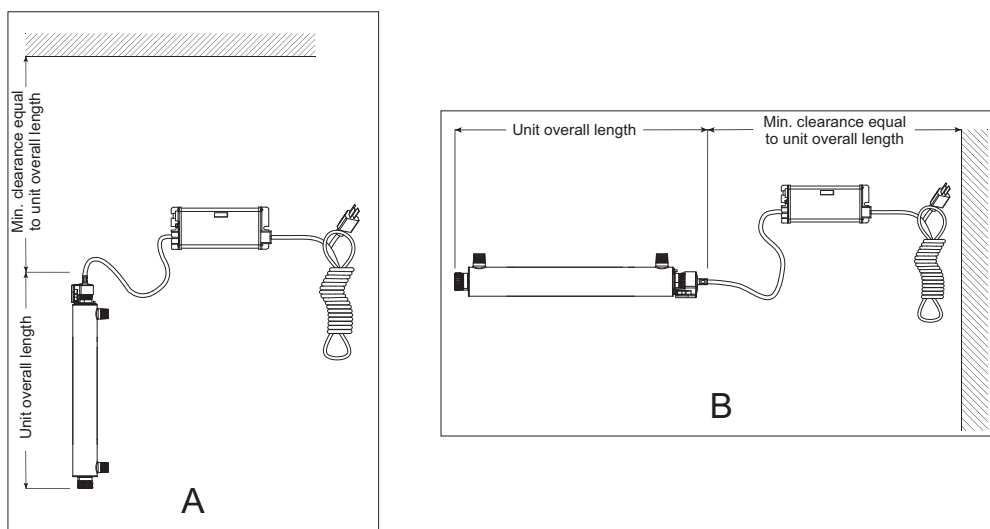

Figure 4 Installation - Vertical and Horizontal
2. Select a suitable location for the UV system and its related components. As it is recommended to install a GFCI, make sure that this is taken into consideration prior to any installation. The system can either be installed vertically (inlet port at the bottom) as shown in Figure 4 A, or horizontally as shown in Figure 4 B. However, the vertical installation is the most preferred method. When selecting a mounting location, leave enough space to allow the removal of the UV lamp and/or quartz sleeve (typically leave a space equal to the size of the UV chamber itself).